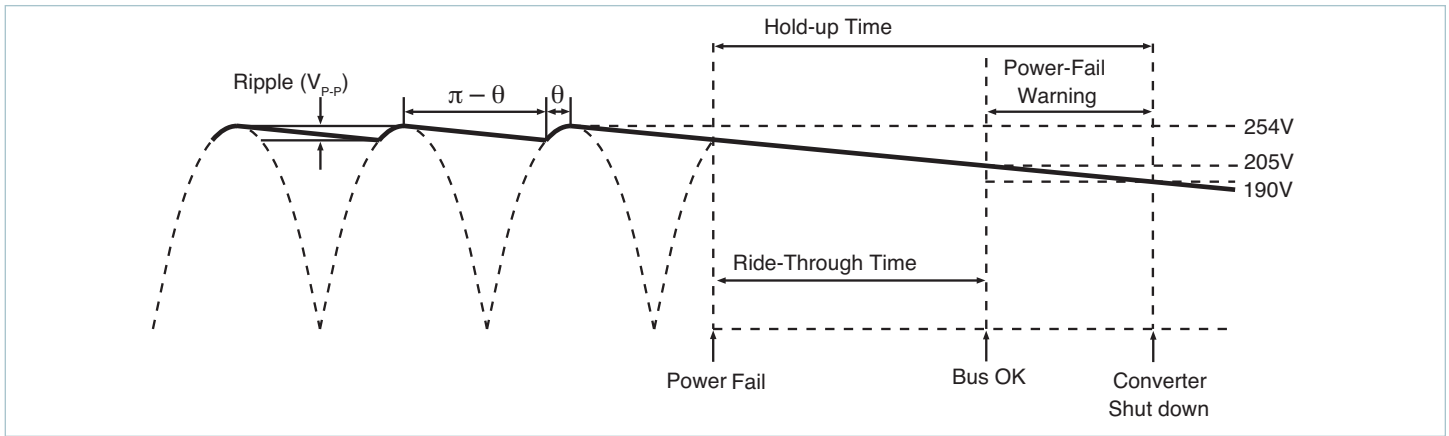
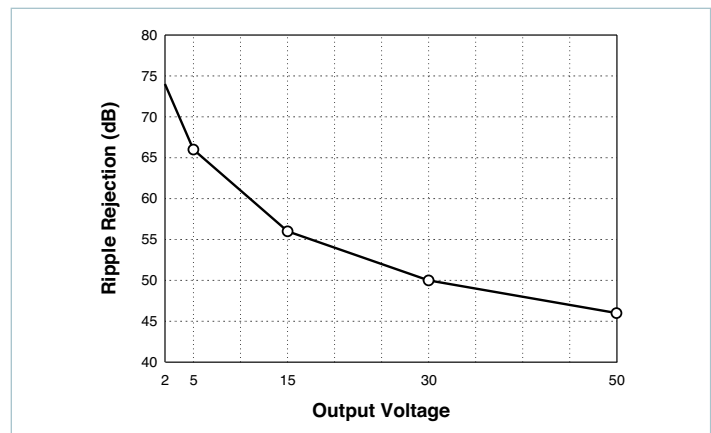

Figure 8.7 — General timing diagram of bus voltage following interruption of the AC mains
Figure 8.11 — Converter ripple rejection vs. output voltage (typical)
**Hold-up Capacitors:** Hold-up capacitor values should be determined according to output bus voltage ripple, power fail hold-up time, and ride-through time. (Figure 8.7)
The power-fail warning time ( $\Delta t$ ) is defined as the interval between Bus OK and converter shut down (EN) as illustrated in Figure 8.7. The Bus OK and Enable thresholds are 205 and 190V, respectively. A simplified relationship between power-fail warning time, operating power, and bus capacitance is obtained by inserting these constants:
For example, a converter whose output is 15V and nominal input is 300V will provide 56dB ripple rejection, i.e., 10Vp,p of input ripple will produce 15mVp,p of output ripple. (Figure 8.11) Equation 3 is again used to determine the required capacitance. In this case,  $V_1$  and  $V_2$  are the instantaneous values of bus voltage at the peaks and valleys (Figure 8.7) of the ripple, respectively. The capacitors must hold up the bus voltage for the time interval ( $\Delta t$ ) between peaks of the rectified line as given by:
(Figure 8.7)
Figure 8.11 is used to determine the ripple rejection of the DC-DC converter and indicates a ripple rejection of approximately 60dB for a 12V output. Since the ripple on the bus voltage is 12VAC and the ripple rejection of the converter is 60dB, the output ripple of the converter due to ripple on its input (primarily 120Hz) will be 12mVp-p.